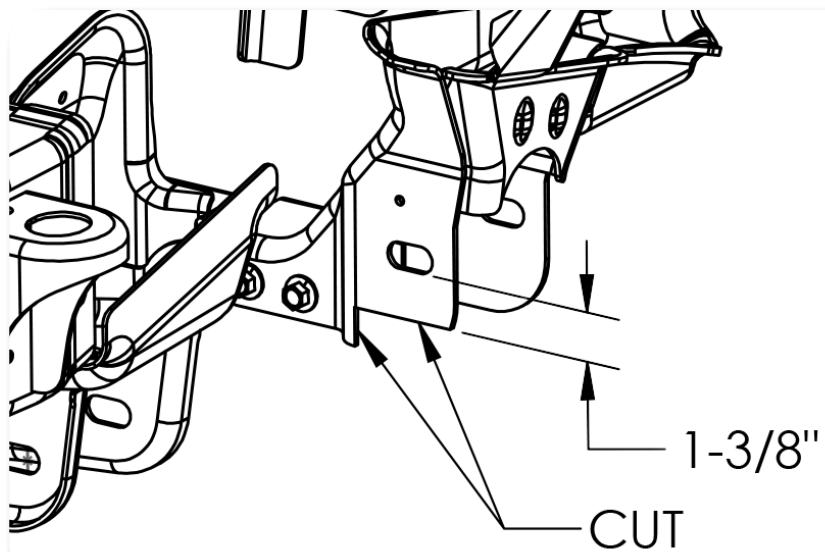

Figure 12
21. The factory rear control arm pockets (both sides) need to be trimmed to clear the new crossmember. Measure down 1-3/8" from the bottom of the OE control arm bolt slot on the front face of the control arm mount and make a horizontal cut line. Make a vertical cut up to the horizontal cut where the vertical offset in the factory mount begins. **Figure 12**